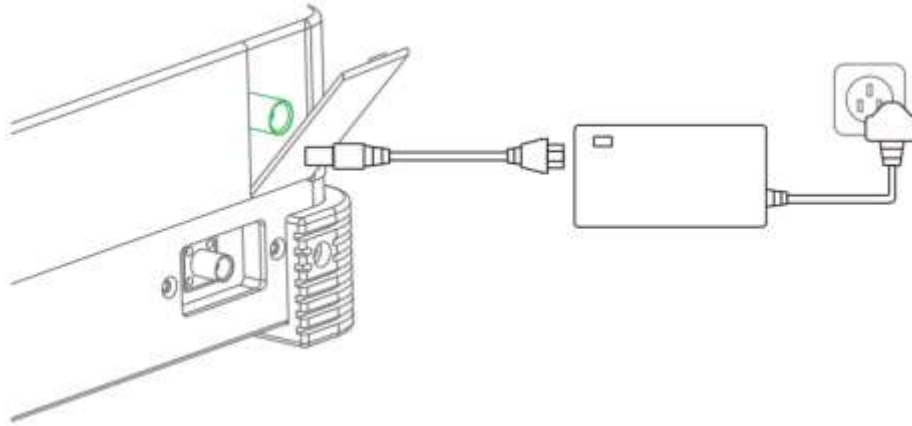

Figure 3-11
- Step 1 Connect the ground station to power adapter with a charging cable, as shown in Figure 3-11.